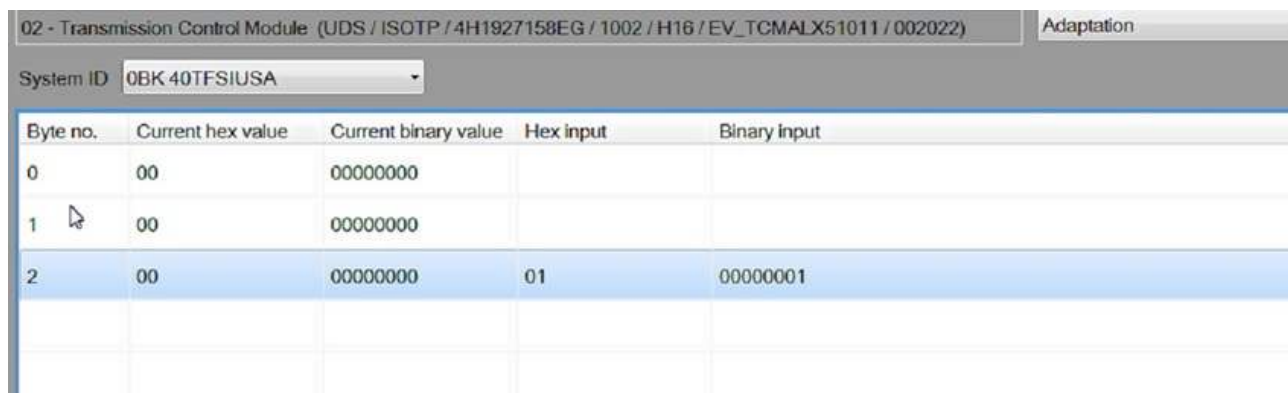

Figure 6. Coding changes ready to be made
10. The coding menu will now show the changes ready to be made in the row for Byte no. 2 (Figure 6), under "Hex input". Select "Apply" on the bottom of the screen.